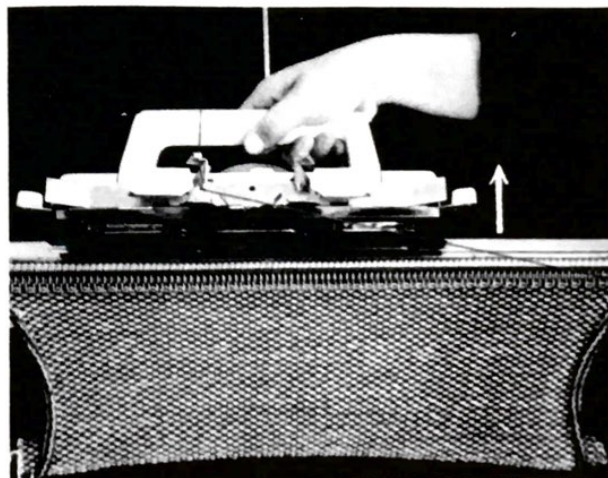

Fig. 44
**Note:** An alternative method for moving the carriage from one end of the machine to the other, is, by raising the Carriage slightly at the front to clear the needles and slide it along the back Runner Rail to left or right, see Fig. 44.